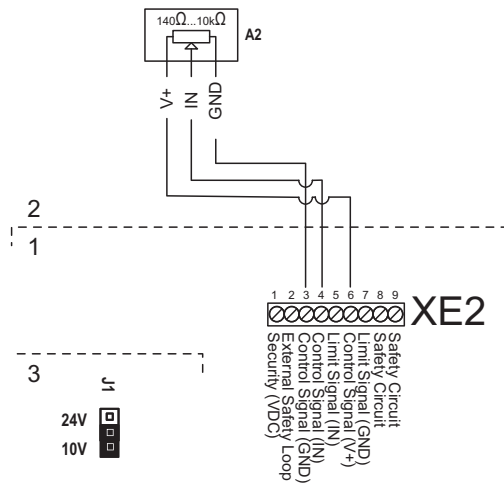

Figure 17 - Ohmic Humidity Controller Connection
4. Connect the signal cables of the ohmic humidity controller to terminals 3 (GND), 4 (IN), and 6 (V+) of the control terminal block, XE2. Refer to Figure 17 - above.